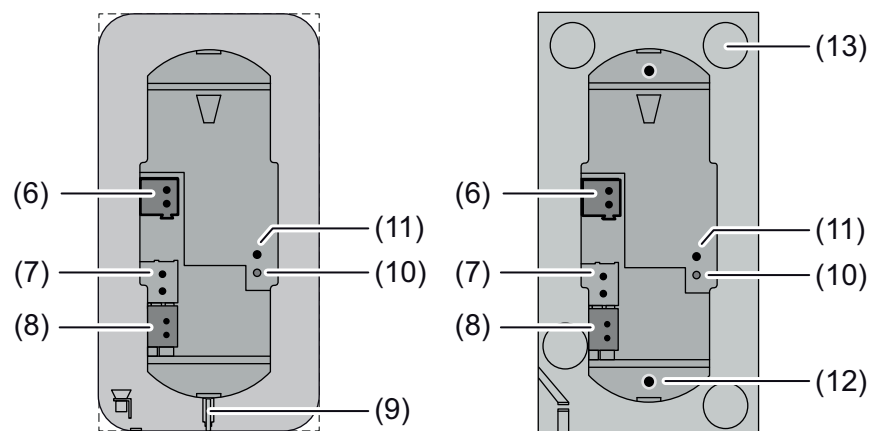

Figure 2: Device components, rear side
- Free the adhesion points for the adhesive dots on the rear side of the glass sensor (13) from impurities (Figure 2).